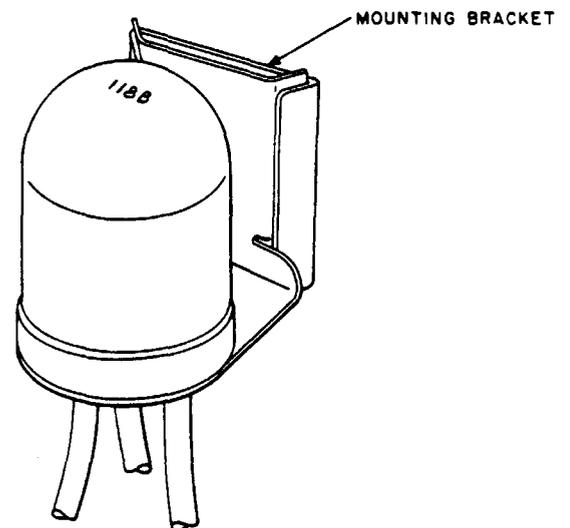

Figure 79—118B Protector
12.01 The 118B protector (Figure 79), which supersedes the 99C protector, is designed to protect telephone circuits in the event of an accidental contact between power wires (of the MGN-type and carrying over 2900 volts) and telephone wires. Three 14-gauge insulated wire leads extend from the bottom of the protector. One lead is connected to ground (of the MGN power), and two leads are connected to the telephone line wires.